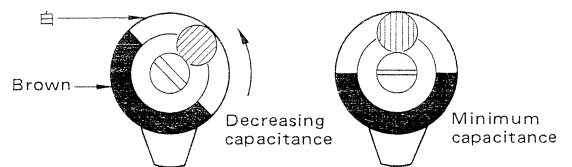

Fig. 14 Adjustment of TC7
- (1) Set the knob on the front panel to HIGH position. Adjust TC1, L12 and L13 to obtain maximum indication on the am-meter.
- (2) Increase supply voltage to 13 V and adjust TC3 ~ 7 for maximum indication on the power meter.
- (3) Reset supply voltage to 9 V, and adjust TC1 ~ 4 for maximum indication on the power meter.
- (4) Again increase supply voltage to 13 V and turn TC7 in the direction decreasing capacitance to give the reading of 2.2 W on the power meter. In this time, consuming current reaches 650 ~ 700 mA. (The channel indication lamp should be off.) (Fig. 14)